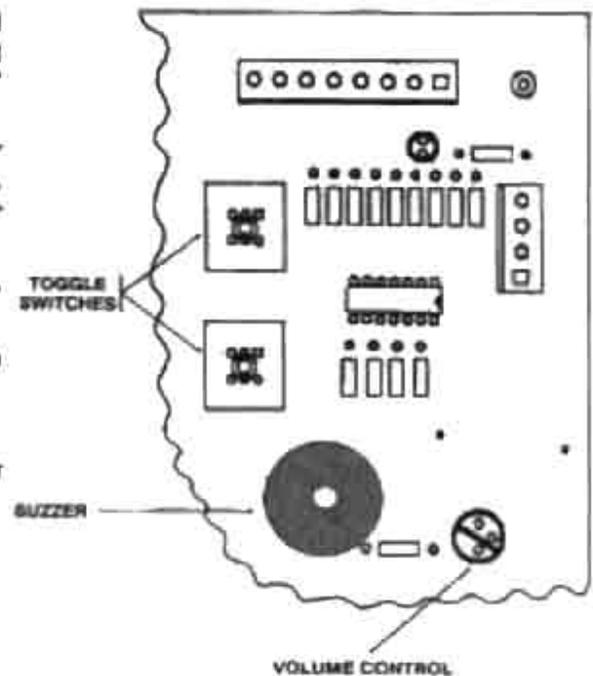

Figure 3-4. Volume control and switches
(7) Depress the power "ON" switch on the control panel and note the volume of the alarm. If you want to adjust the volume of the alarm (buzzer), rotate the "VOLUME" control resistor "R28" (fig 3-4).
(8) Verify the correct positions of toggle switches "S1" and "S2." "S1" should be set to the "NORM" (normal) position and switch "S2" should be set to the "AERATOR/WARM" position (fig 3-4).
(9) Close the control housing by completing the following actions:
- (10) Depress the power "OFF" switch.